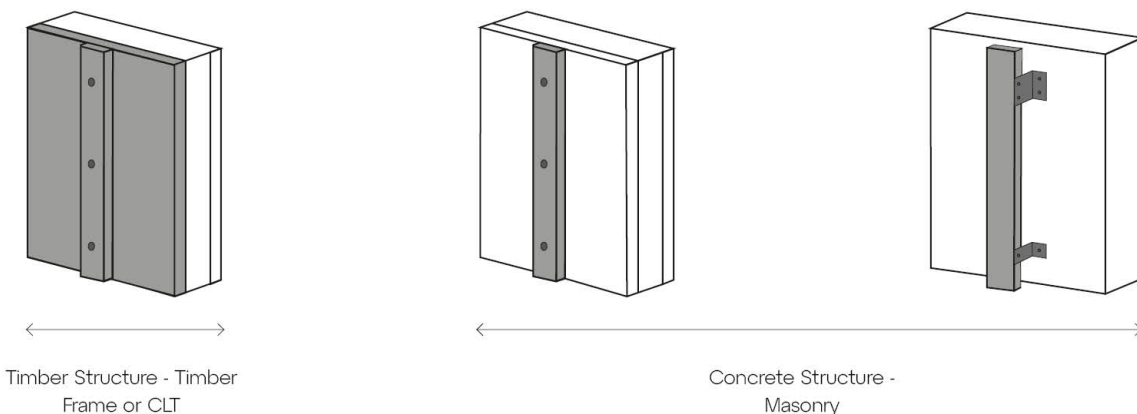

Fig. 02 | Support Structure arrangements
- ✦ Proper wood battens support structure should be used for siding/cladding installation (see Fig. 02). Battens should be properly fixed to the underlying wall/structure, being it wood or wood based material, concrete or other. If proprietary support structure solutions are used, ensure proper installation.